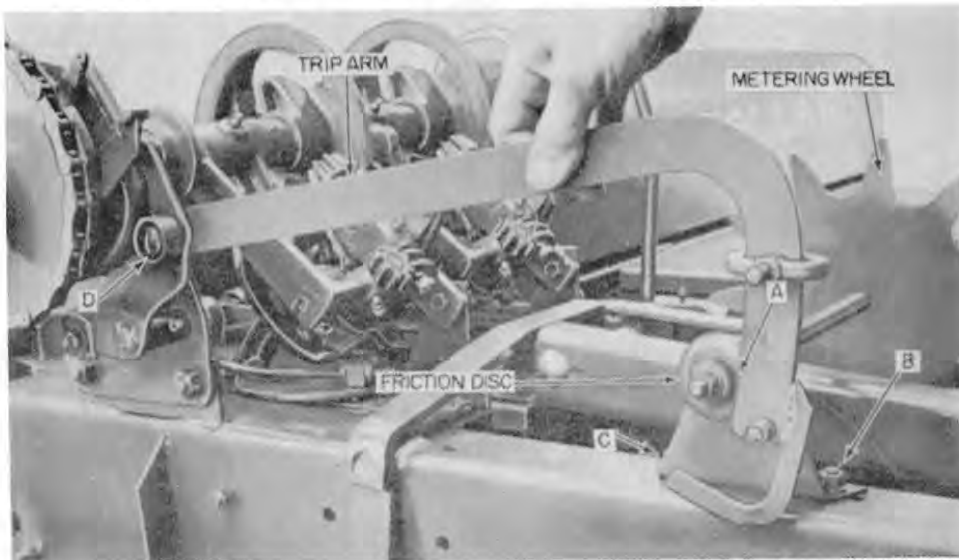

FIGURE 31
The metering wheel should be located so that when the trip arm is moved to its rearmost position by the cam D on the knotter clutch disc, there is  $\frac{1}{8}$ " clearance between the trip arm and the friction disc, as indicated at point A, Figure 31. This provides clearance so that the trip arm will reset after each knotter cycle and make uniform length bales.
3. Loosen bolts B and C Figure 31.